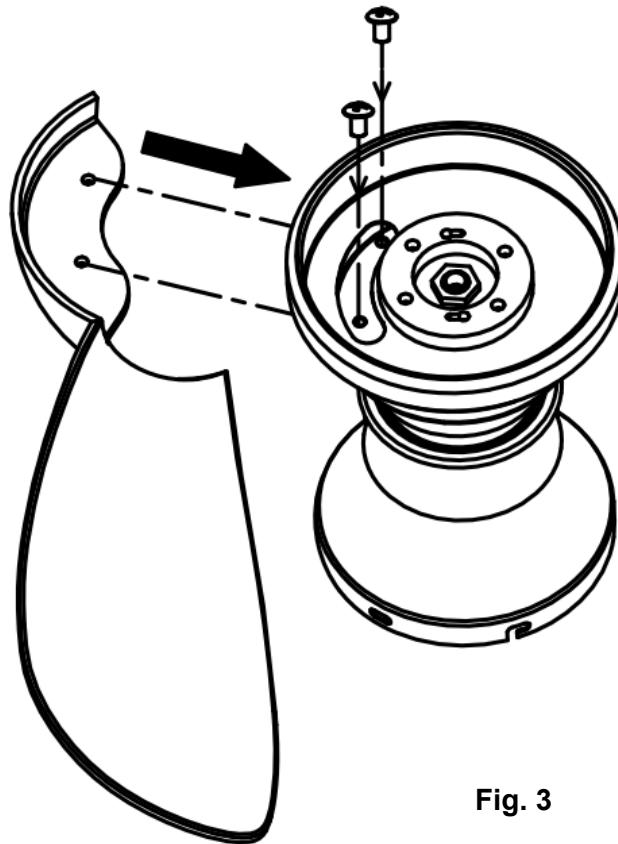

Fig. 3
INSTALLATION OF BLADE (Fig. 3)
- Install the fan blade to the fan assembly by tightening the 2 screws. (Fig. 3)